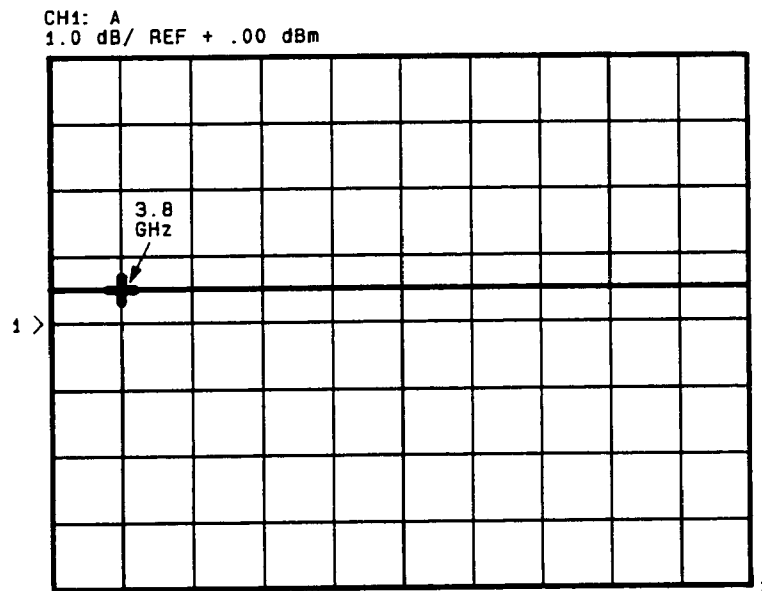

Figure 5-15. 3.8 GHz Frequency Point
24. On the HP 8757A, press **CURSOR** , then rotate the rotary knob to position the cursor display at the second graticule as in Figure 5-15. Note the power level displayed at the top of the CRT and record it in Table 5-5 under the 3.8 GHz box.